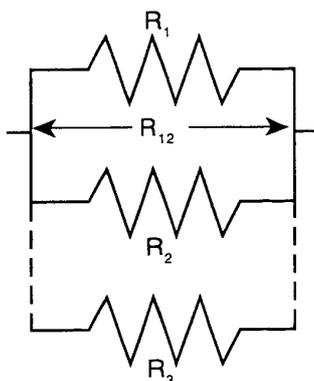

Figure 14.12: Resistors in Parallel Circuit
6. Construct a *parallel circuit* as in Figure 14.12. Measure the resistance values in Table 14.3 and record them. Compare with calculated values.